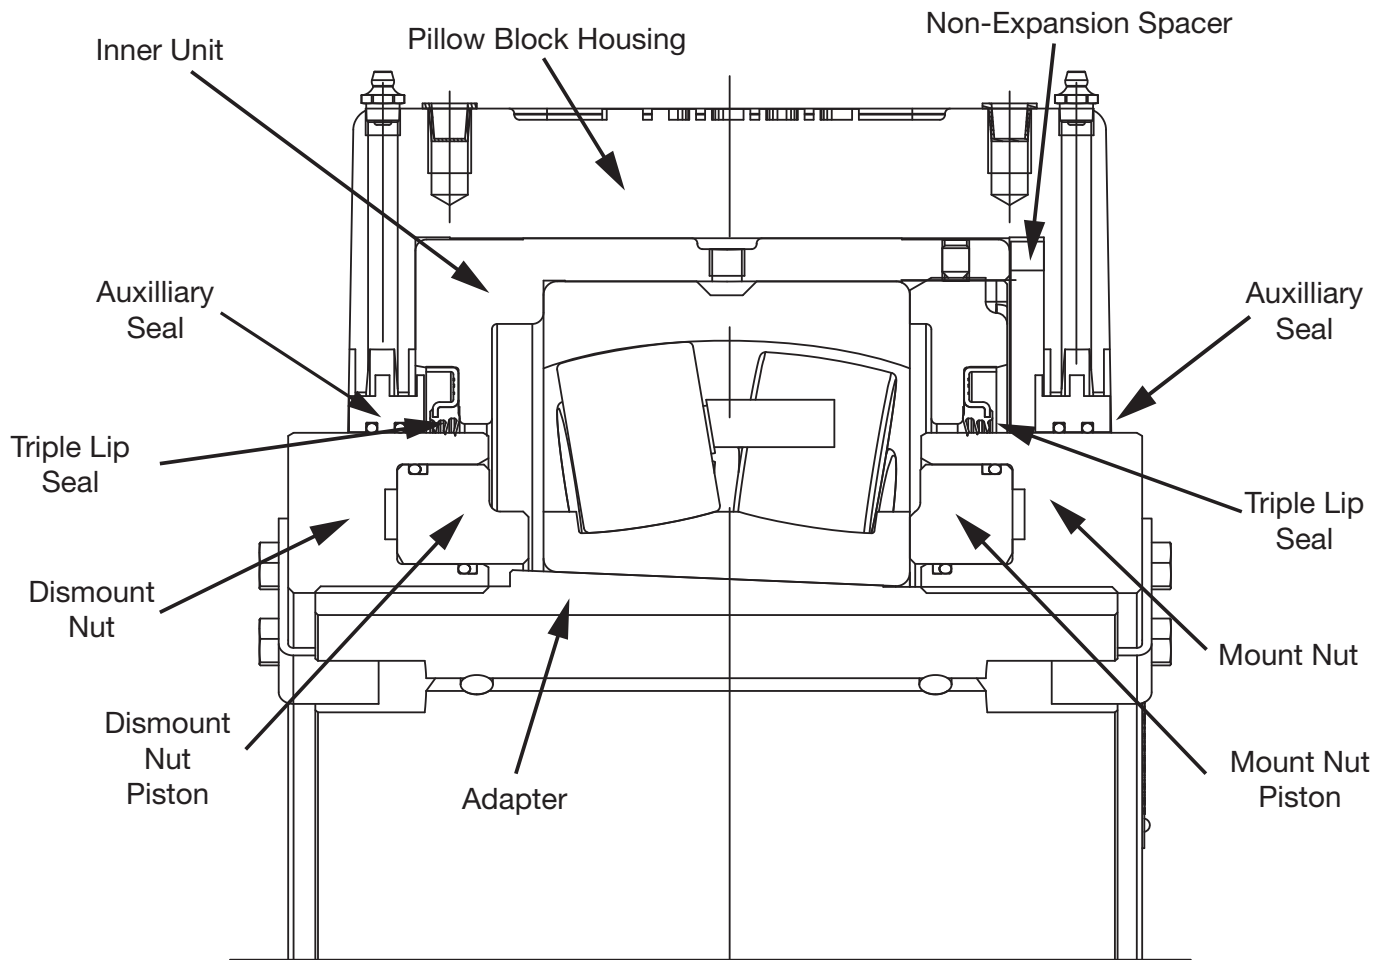

Figure 3 - Cross Section
4. Rotate Dismount Nut counter clockwise 2 full rotations. The Dismount Nut must remain loose during the mounting procedure but should never be removed. Without loosening the dismount nut, the dismount unit piston will make contact with the bearing unit as it travels up the adapter. (See Figure 3) This will not allow the bearing to move up the adapter and tighten properly.
4. Incorporating a spanner or drift and hammer, rotate the Mount Nut counter clockwise 2 full rotations. The Mount Nut must remain loose during the dismounting procedure, but should never be removed. Without loosening the mount nut, the mount nut piston will make contact with the bearing unit as it travels down the adapter. (See Figure 3) This will not allow the bearing to move down the adapter and loosen from the shaft properly.